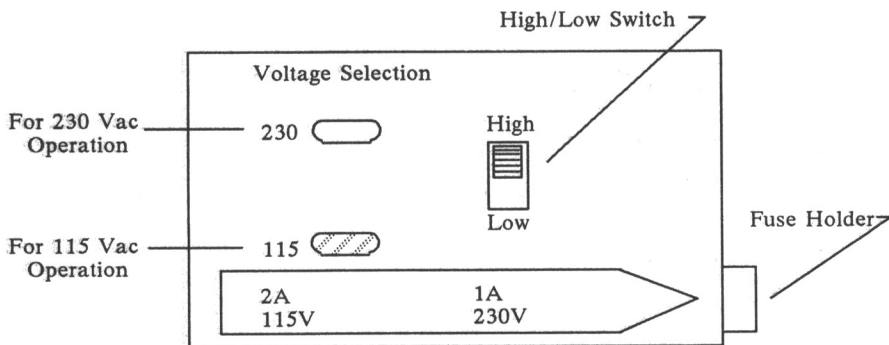

Figure 8. Front View of Power Supplies Voltage Selection Cover.
5. Insert a small insulated screwdriver into the 115V or 230V slot located at the left side of the Voltage Selection Cover and set the switch to the proper setting. Refer to Figure 8 and Table 5.
- 6 Set the **HIGH/LOW** switch to the proper setting. Refer to Figure 8 and Table 5.
- 7 Remove the **fuse holder** from the socket and install a **3AG fuse** of the correct size (2.0 amperes for 100/120 volts, 1.0 amperes for 220/240 volts). Refer to Figure 8.